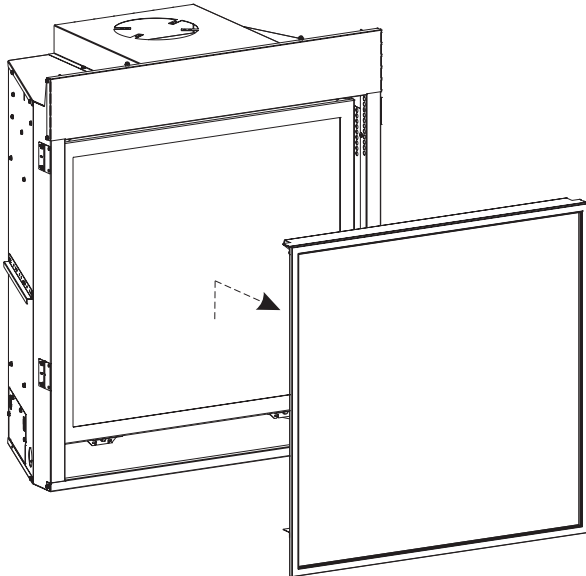

Figure 4
- Check the barrier screen for fit and structural integrity. **See Figure 4.**